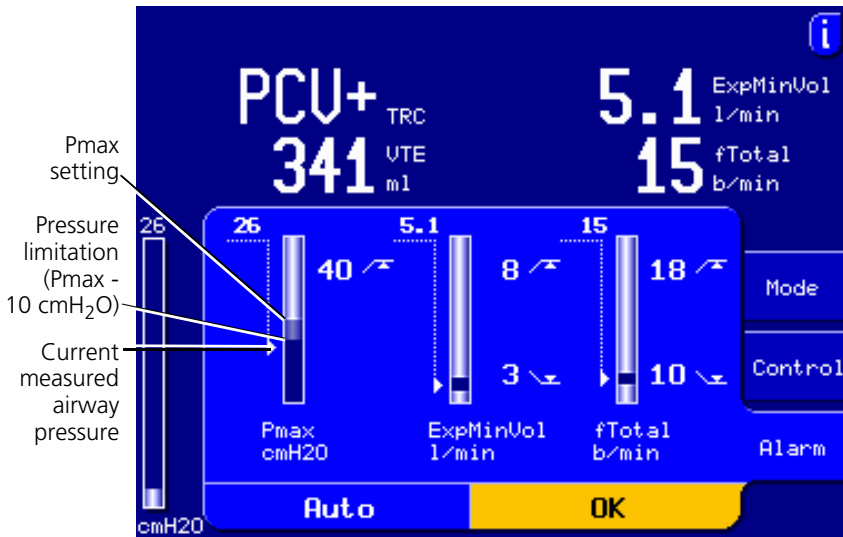

Figure 4-9. Alarm window
1. Open the alarm window (Figure 4-9) by pressing the Alarm key.